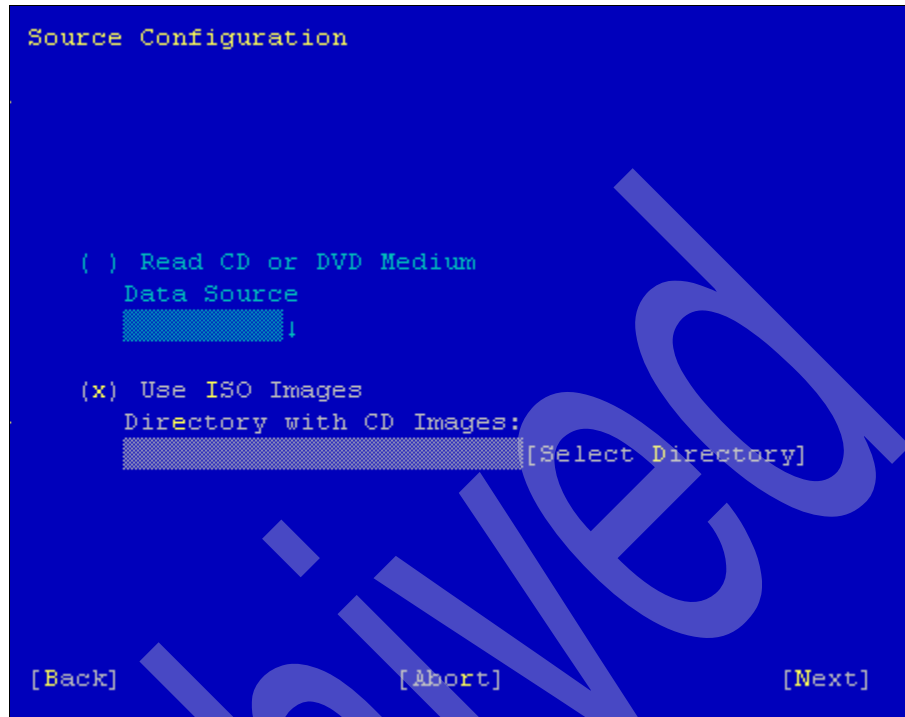

Figure D-3 Source configuration window
9. At the Source Configuration window, if you have a DVD of the operating system, click the check box. Otherwise, if you have ISO images of the DVD contents, select the second check box and browse via Select Directory to the directory that contains all ISO images of all CDs (see Figure D-3 on page 457).
11. If you chose the Read CD or DVD Medium option given in Figure D-3, you will be prompted to insert the first DVD.